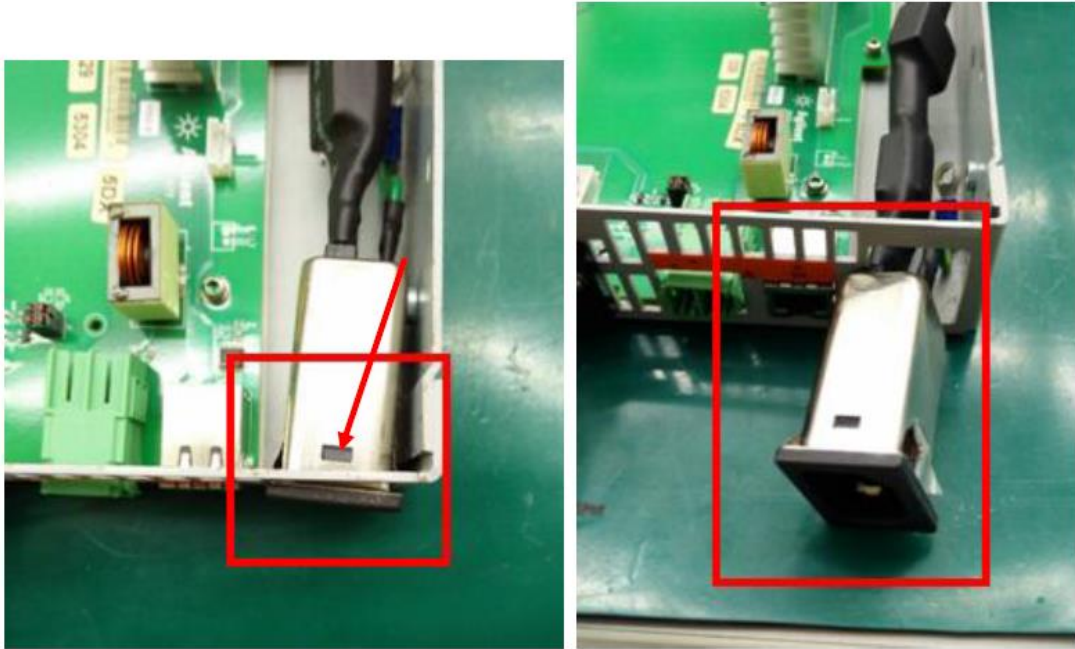

Figure 11
11. Remove AC line socket from chassis by pressing the lock chip as shown in **Figure 11**.